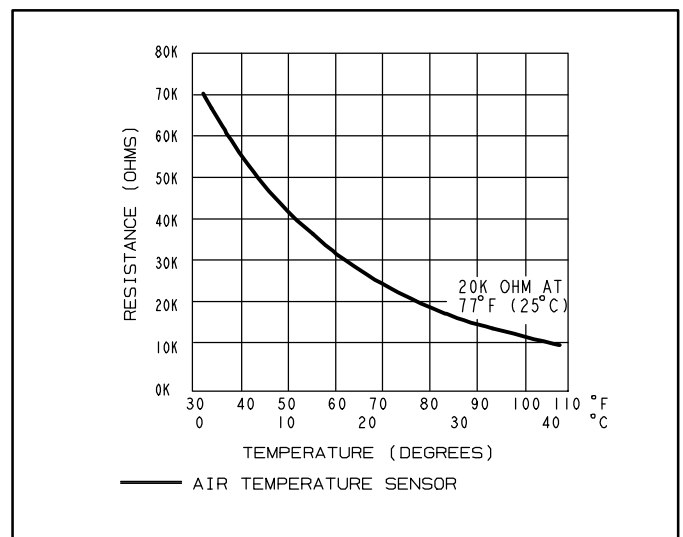

Figure 8. 20K Ohm Temperature Sensor (47W36)
- 100959-03 (47W36) is furnished with a 20K ohm nonlinear NTC temperature sensor that follows a specific temperature resistance curve as shown in figure 8.